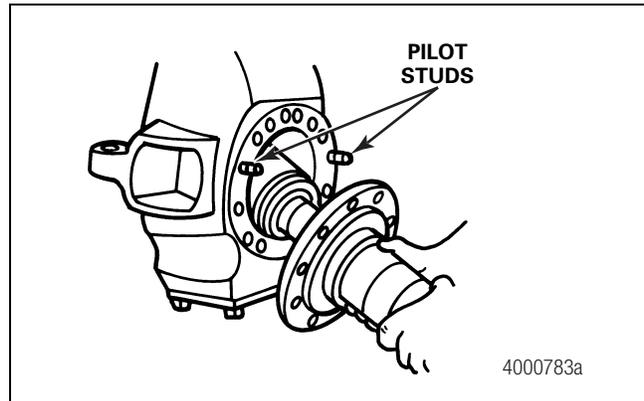

Figure 6.11
**NOTE:** On larger model axles, spindle installation will be easier if you install two temporary pilot studs into opposite sides of the knuckle. Tighten the studs finger-tight. Figure 6.11.